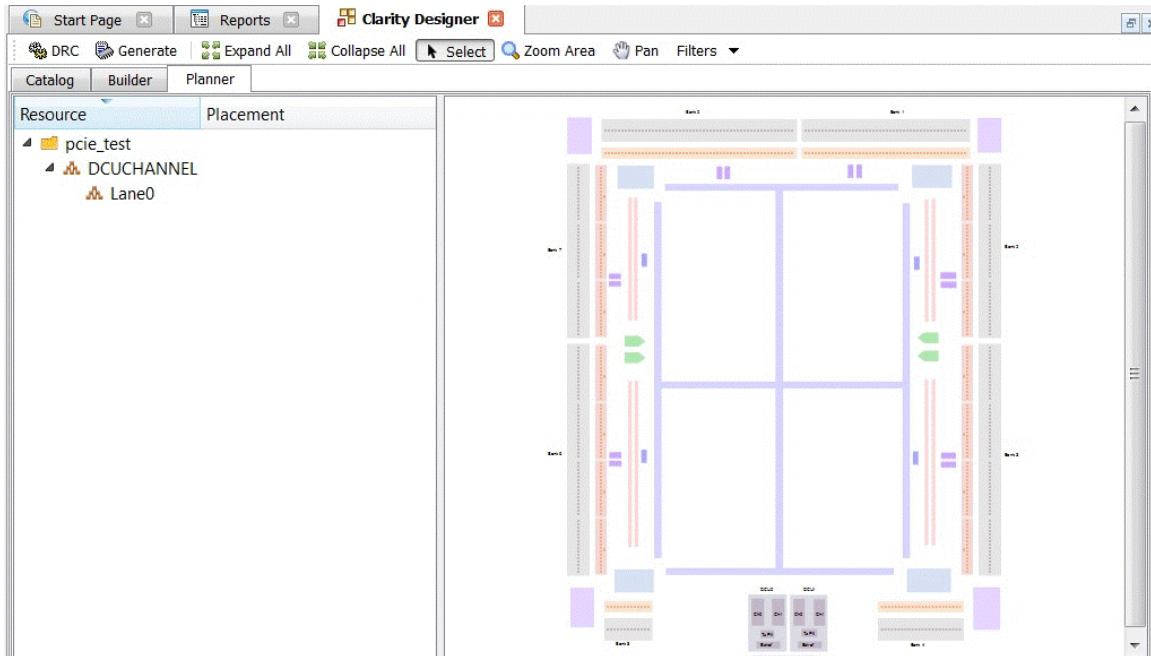

Figure 4.7. PCI Express Endpoint IP Core Clarity Designer User Interface
1. After specifying the appropriate settings, click the **Configure** button and then **Close** button at the bottom of the IP core configuration user interface. At this point the data files specifying the configuration of this IP core instance are created in your project directory. An entry for this IP core instance is also included in the Planner tab of the Clarity Designer user interface, as shown in Figure 4.7.